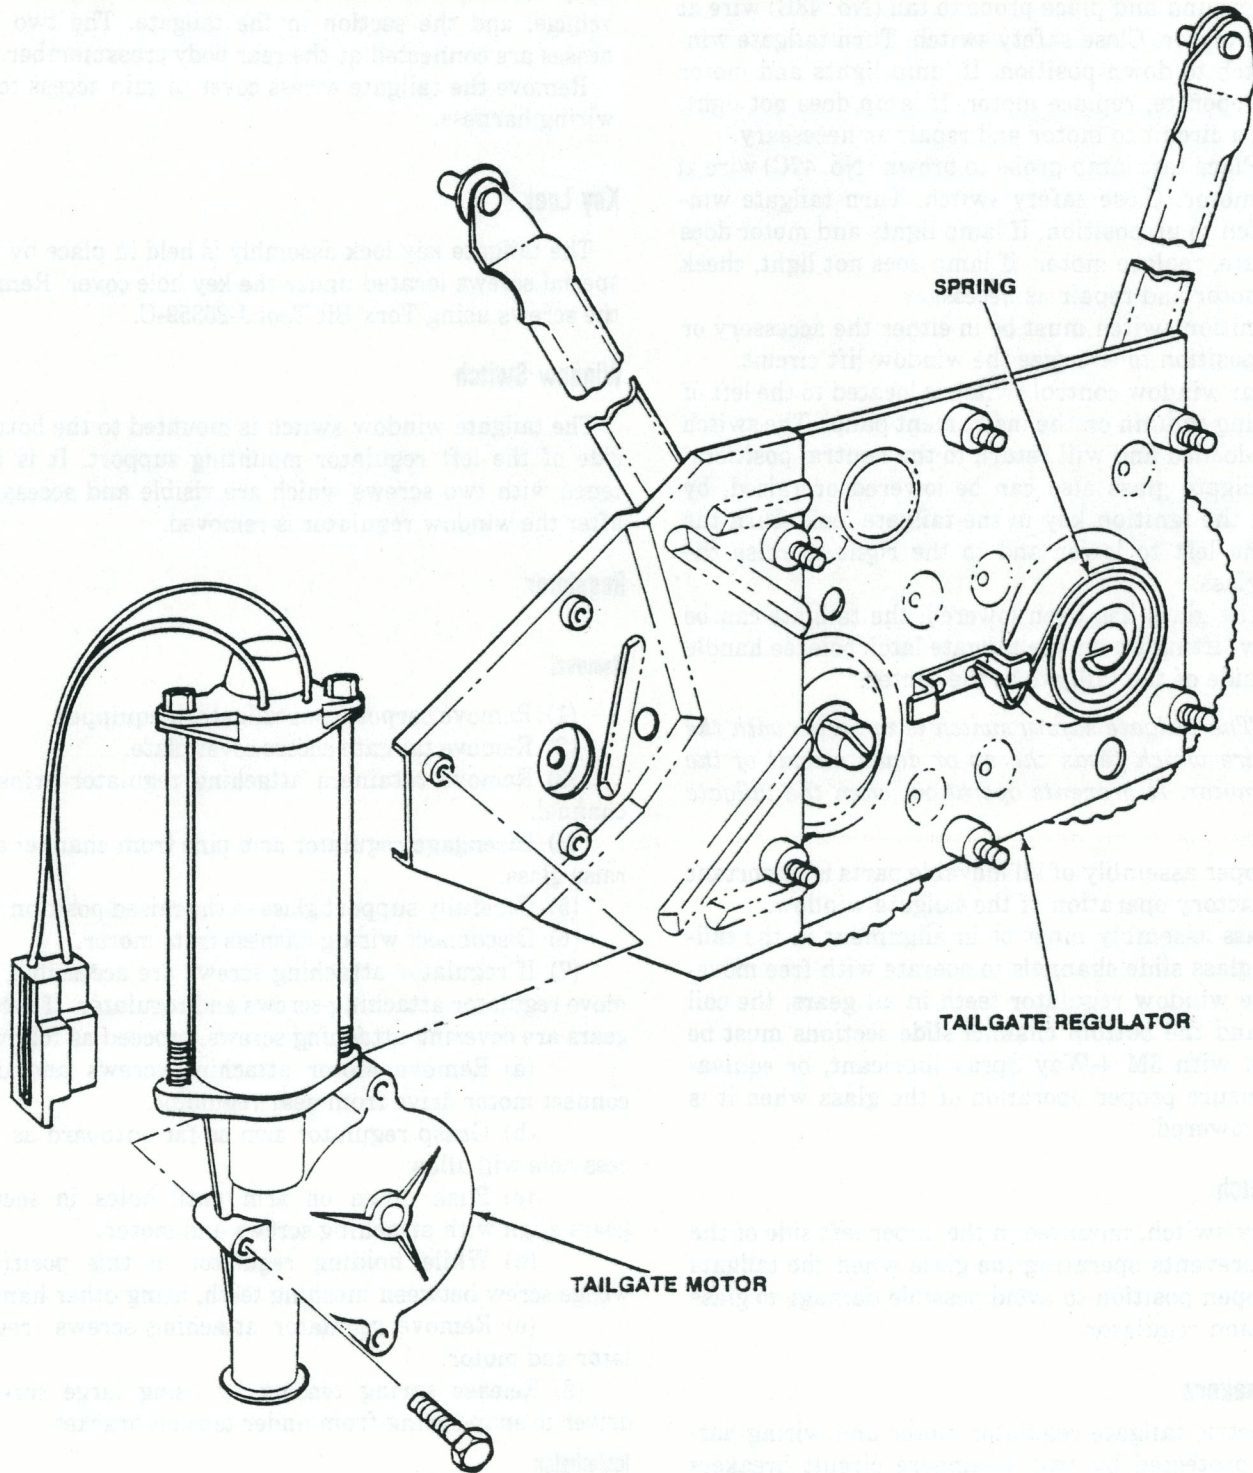

Fig. 3H-5 Power Tailgate Window Regulator and Motor
- (1) Remove tailgate window regulator, as outlined above.
- (2) Remove motor attaching screws (fig. 3H-5) and motor from regulator.